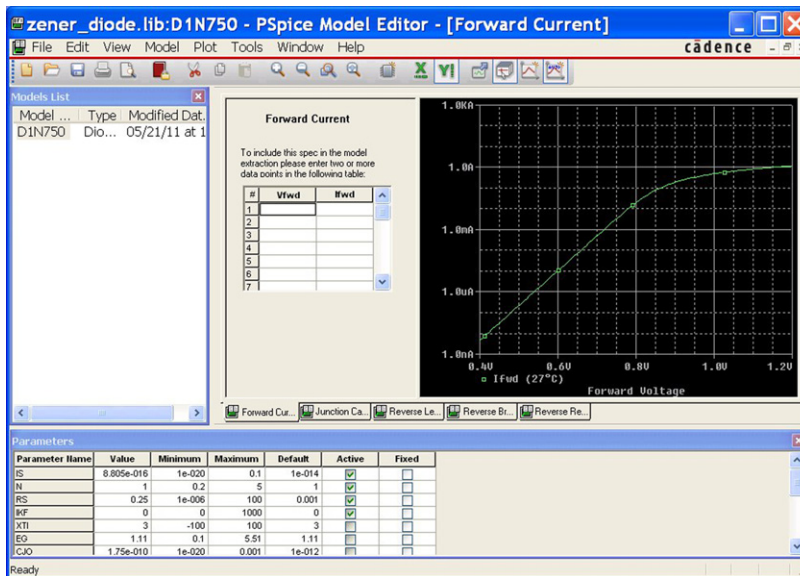

FIGURE 16.17
3. Select the diode and **rmb > Edit PSpice Model** to open the Model Editor. Note the library name at the top of the Model Editor, **zener_diode.lib** (Figure 16.17).
4. From the top toolbar, select **View > Extract Model**. In the first PSpice Model Editor window, click on **Yes**, then click on **OK** in the next window regarding parameters. The Model Editor will display the forward current characteristic for the diode as shown in Figure 16.17.